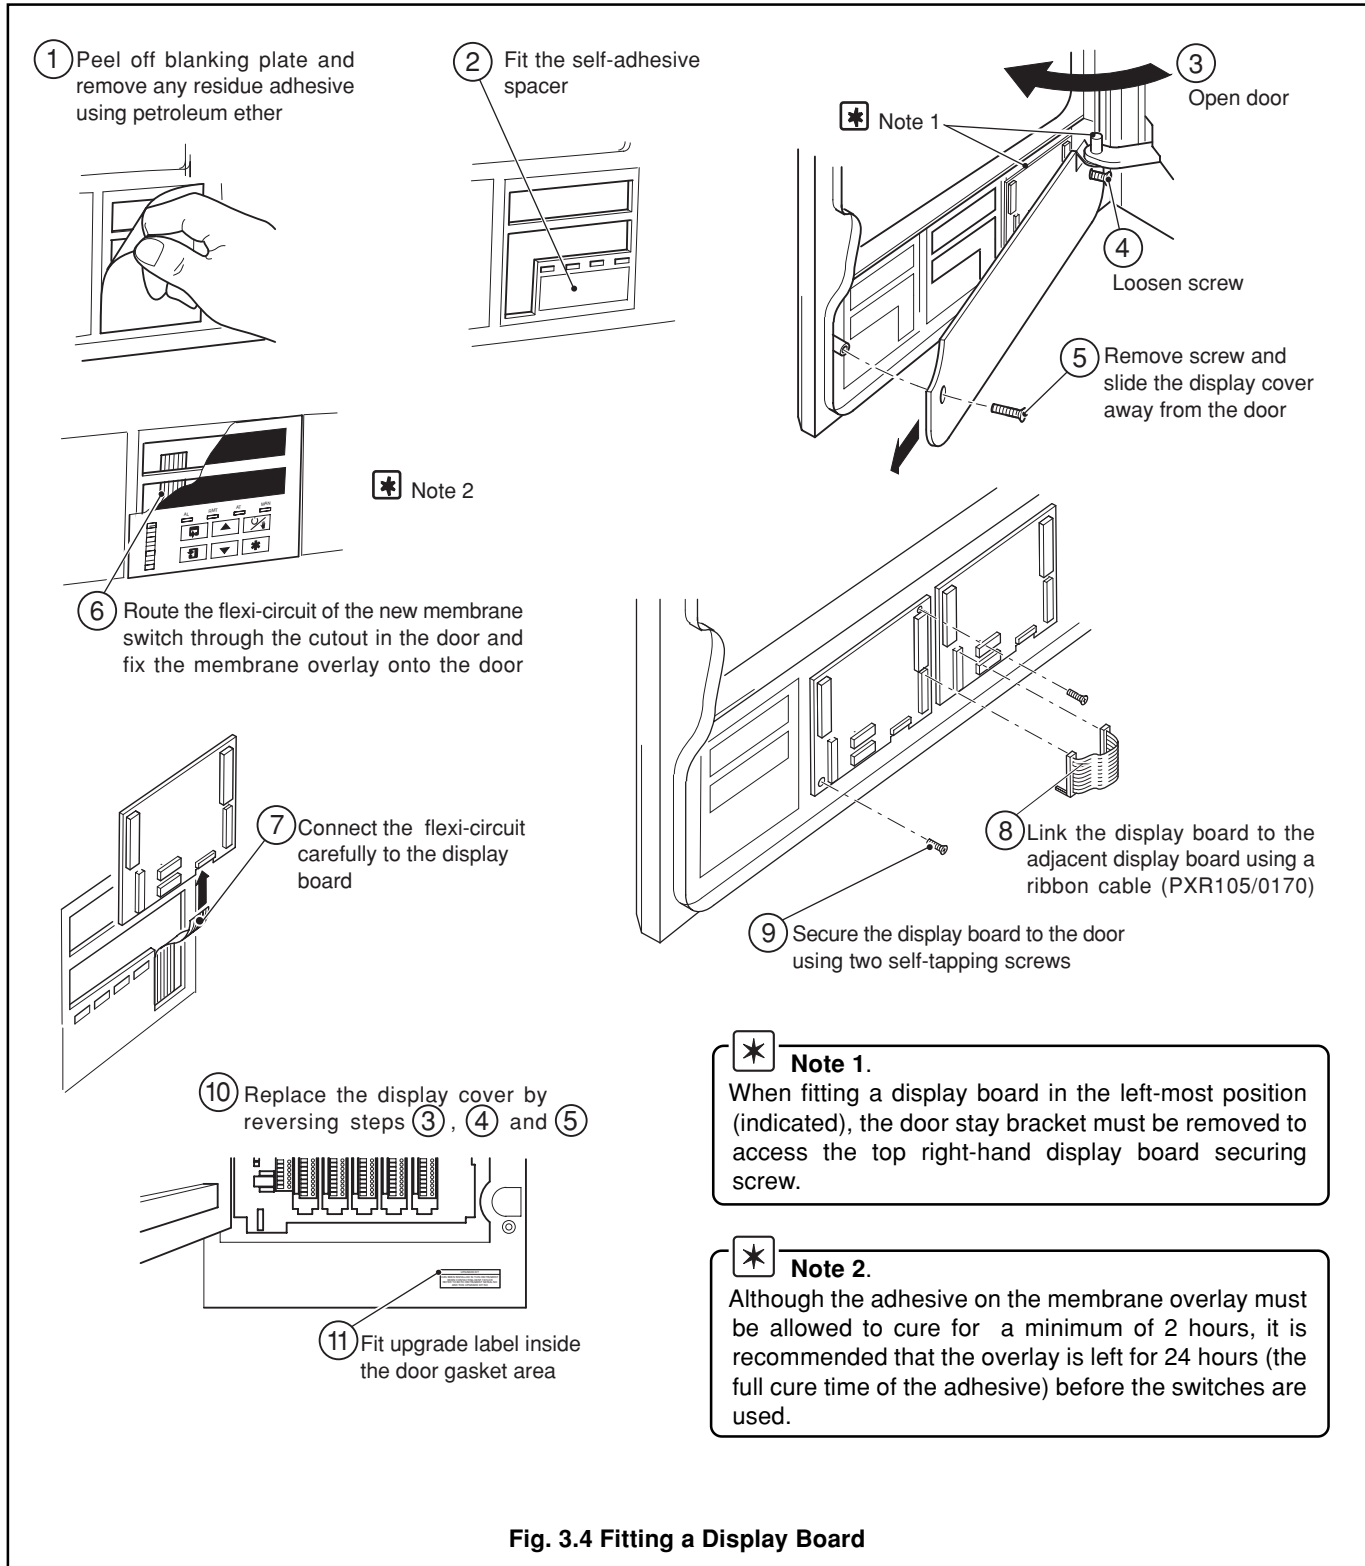

Fig. 3.4 Fitting a Display Board
3.3 Fitting a Display Board – Fig. 3.4
a) Fit the required display board as detailed in Fig. 3.4.